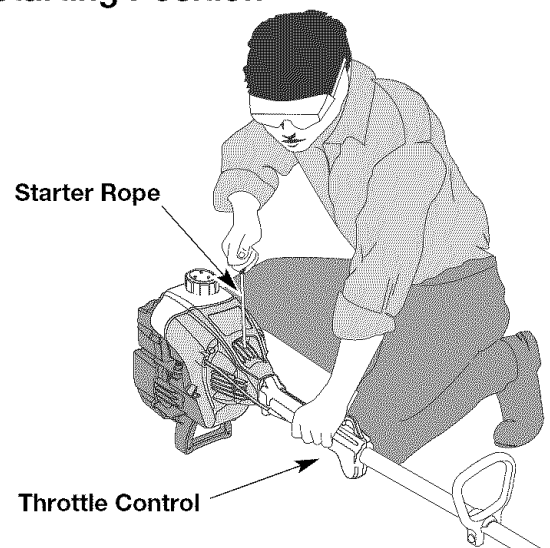

Fig. 8
WARNING: Avoid accidental starting. Make sure you are in the starting position when pulling the starter rope (Fig. 8). To avoid serious injury, the operator and unit must be in a stable position while starting.
5. Crouch in the starting position (Fig. 8) and squeeze the throttle control. Pull the starter rope briskly 5 times.